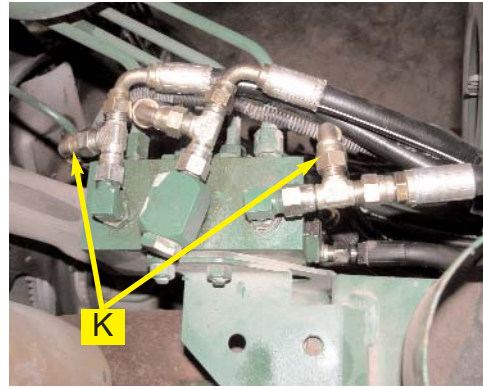

Figure 4a. Tractor Steering Valve.
- a. Connect the left and right steering hoses (**K**) between the **A** and **B** ports of the Automated Steering Block and the run-tees installed in the right and left steering lines in **step 3**. (Figure 4a, 4b, and 4c.)
- b. Connect the automated steering pressure and return hoses (**L** and **M**) between the **P** and **T** ports of the Automated Steering Block and the respective run-tees installed in **step 3**. (Figure 4a, 4b, and 4c.)